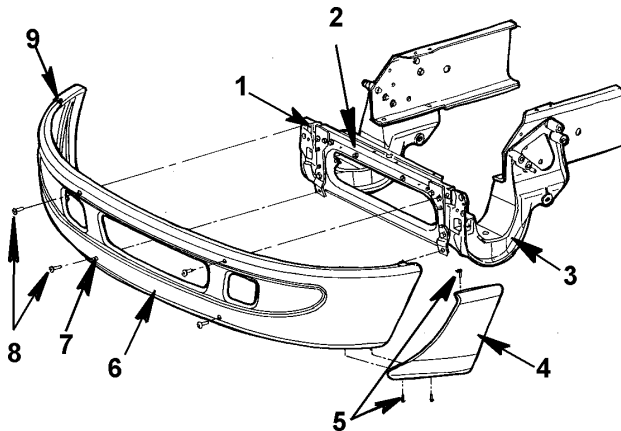

Figure 12 Bumper Installation
2. Insert bolts in the upper holes (Figure 12, Item 8), one driver side, one passenger side. Hand tighten.